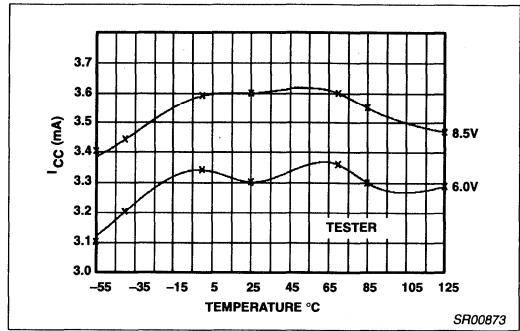

Figure 34. NE604A  $I_{CC}$  vs Temperature
**A.** The NE605 consumes about 5.6mA of current at 6V. This level is slightly temperature and voltage dependent as shown in Figure 33. Similar data for the NE604A is shown in Figure 34.